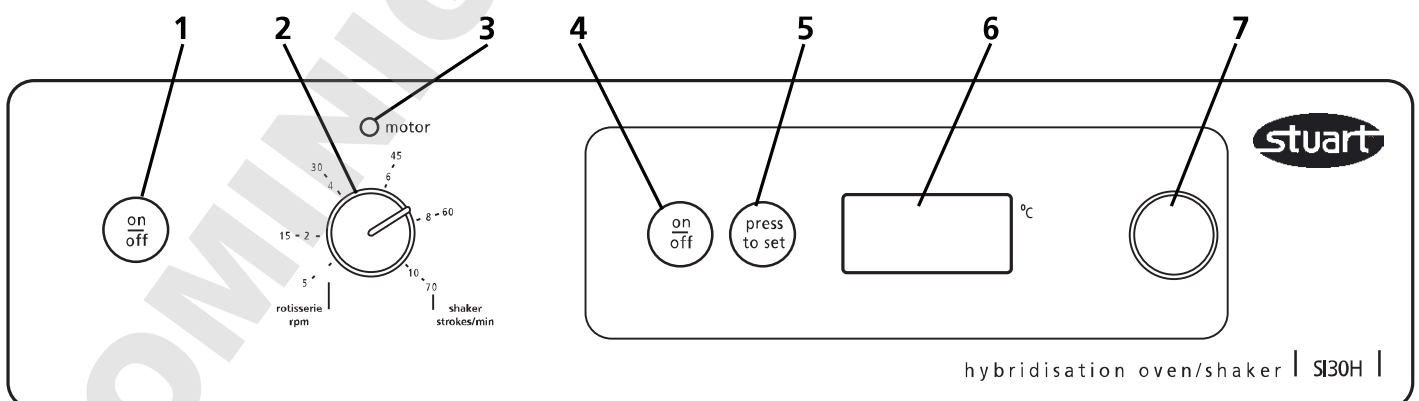

Fig 3: Front panel controls
- 3.1 The incubator temperature controls are located on the right hand side of the control panel (number 4 to 7 in figure 3).
- 5.6 The speed controls are on the left hand side of the control panel (numbers 1 to 3 in figure 3). Turn the rotisserie / shaker ON by pressing the on / off button (1). The red indicator light (3) above the speed selector dial (2) will illuminate.